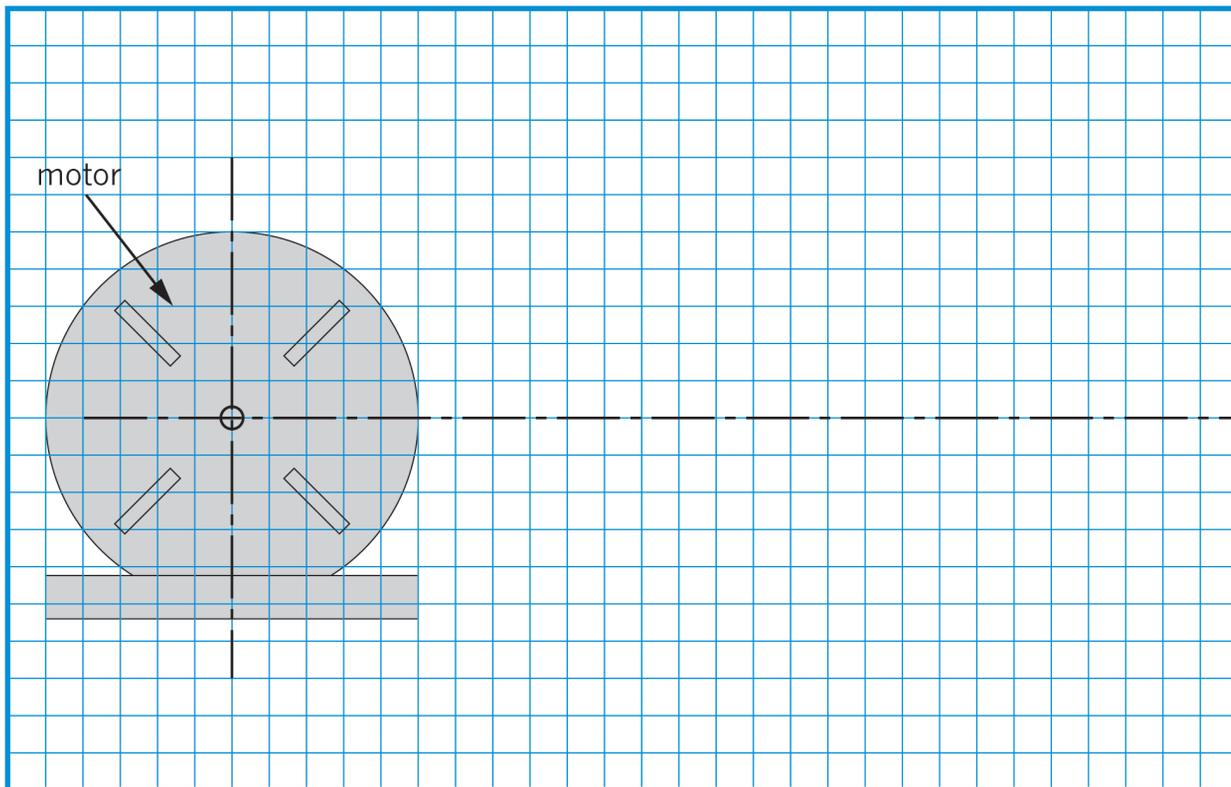

Figure 14: Copy this diagram to show how you will improve the winch.
5. Copy and complete the drawing in Figure 14 to show how you will improve the winch. Draw the driver gear on top of the motor. Then show where you will place the winder, and draw the winder gear. Use a pitch of 7,5 mm and a depth of 7,5 mm for the gear teeth. Label your drawing with the pitch and number of teeth on each of the gear wheels.